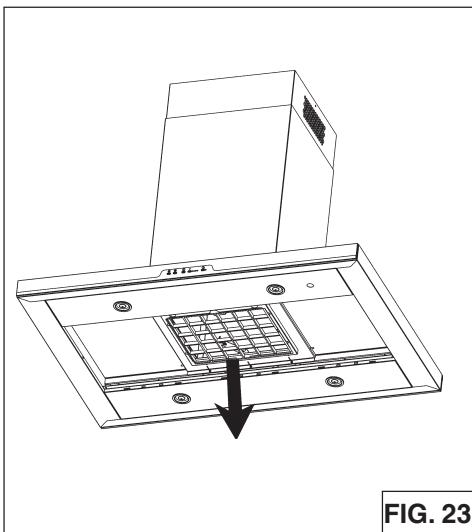

FIG. 23
1. To remove the CHARCOAL filter, grip and push filter tab toward rear of hood. Pull the filter down to disengage the rear filter tabs (Fig.23).